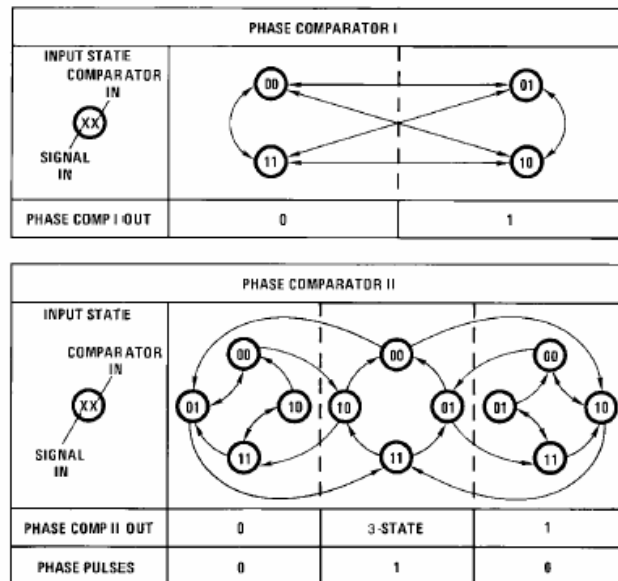

FIGURE 2.
We will be using XR-2206 for Frequency Shift Keying. Data sheet is provided along with the manual. The XR-2206 can be operated with two separate timing resistors R_1 and R_2 , connected to timing Pins 7 and 8 respectively, as shown in Figure 2. Depending on the polarity of the logic signal at Pin 9, either one or the other of these timing resistors is activated. If Pin 9 is open-circuited or connected to a bias voltage $\geq 2V$, only R_1 is activated. Similarly, if the voltage level at Pin 9 is $\leq 1V$, only R_2 is activated. Thus, the output frequency can be keyed between two levels, f_1 and f_2 , as
2. Set up the circuit as show in figure 2.
2. What does variable resistor do in the given figure 2.